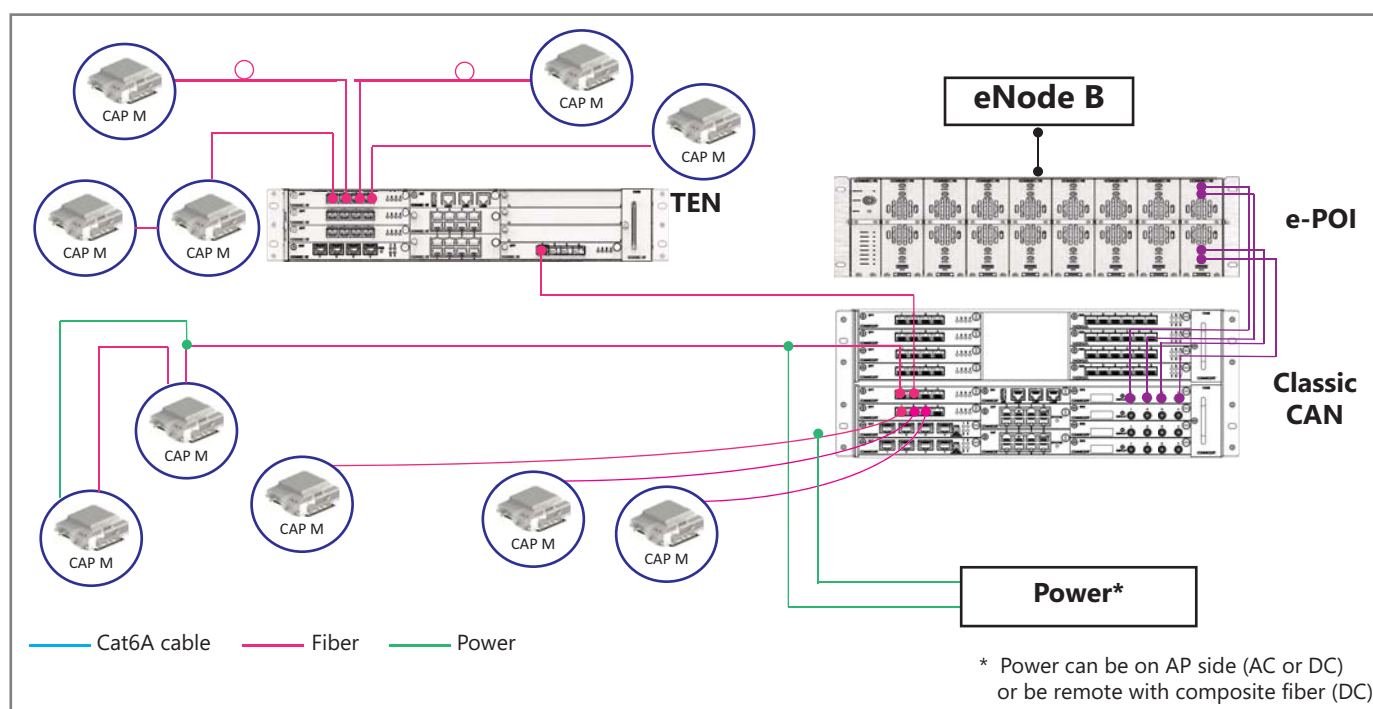

Figure 1. CAP M in an Era System using a Classic CAN
- updated Figure 1 on page 5, which shows an Era system in which the CAP Ms connect to a Classic CAN
Figure 1 shows how a CAP M can be deployed in an Era system.